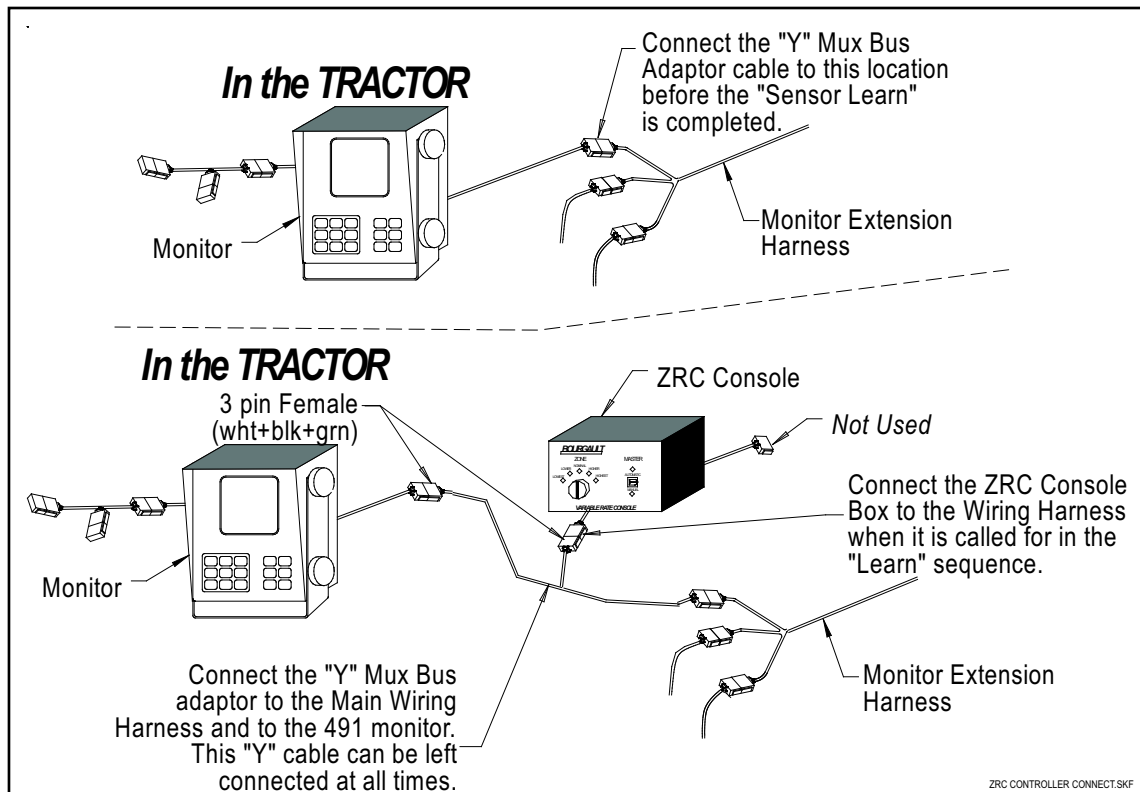

Figure 5.6 - ZRC Controller Connection to Wiring Harness
- i) The controller box should not be connected to the "Y" Mux Bus Adaptor cable until it is called for in the "Learn" sequence. Refer to *Figure 5.6*.